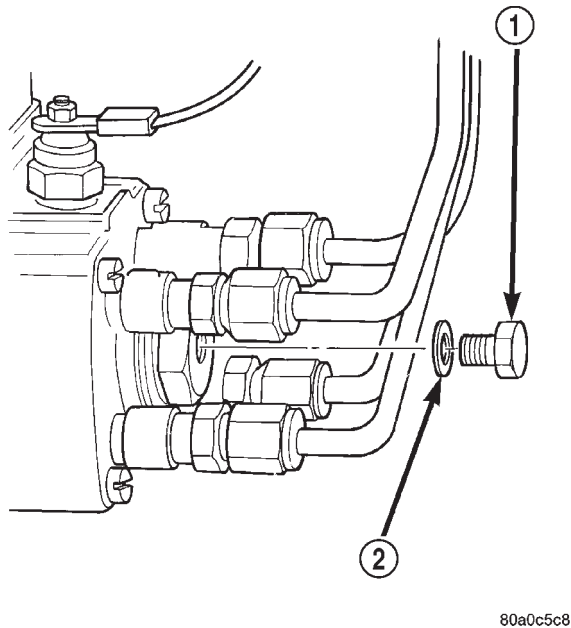
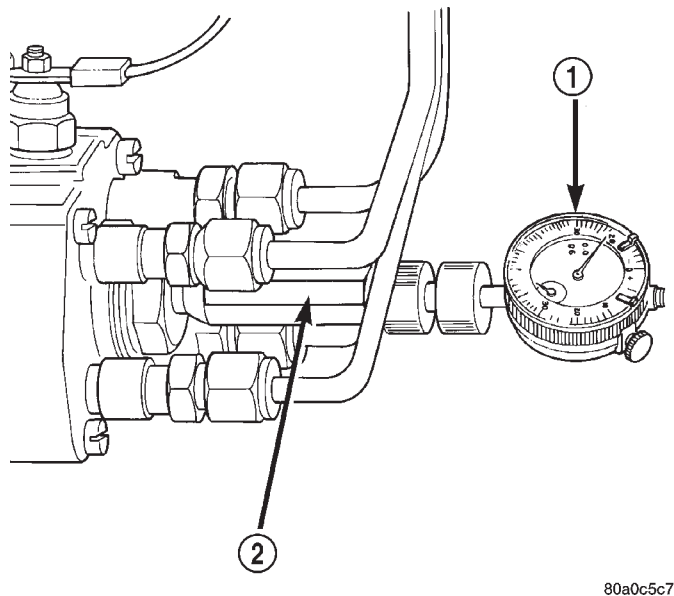

Fig. 33 Access Plug at Rear of Pump
Fig. 34 Installing Dial Indicator and Special Adapter Tools
- 2 - SLOTTED HOLES (3)
- 3 - PUMP MOUNTING NUTS (3)
(3) Remove the gear removing bolt (drive bolt) from gear puller. **CAUTION: Do not remove the special gear puller or timing cover adapter tools from timing cover at this time. Gear misalignment will result.**
(4) Place the key way on the pump shaft to the 11 o'clock position as viewed from the front of pump. Install the pump into the rear of timing gear cover while aligning the key way on pump shaft into pump gear.
(5) Install and snug the 3 injection pump mounting nuts. This is not the final tightening sequence.
(6) Remove the special gear puller and adapter tools from timing gear cover.
(7) Install the injection pump drive gear nut. Torque the nut to 86 N·m.
(8) Remove the access plug and plug washer at rear of pump (Fig. 33). Thread special dial indicator adapter tool VM# 1011 (Fig. 34) into this opening. Hand tighten only.
(9) Attach special dial indicator tool VM# 1013 into the adapter tool (Fig. 34)
(10) Using a socket attached to the front of the crankshaft, rotate the engine in a counter-clockwise direction until